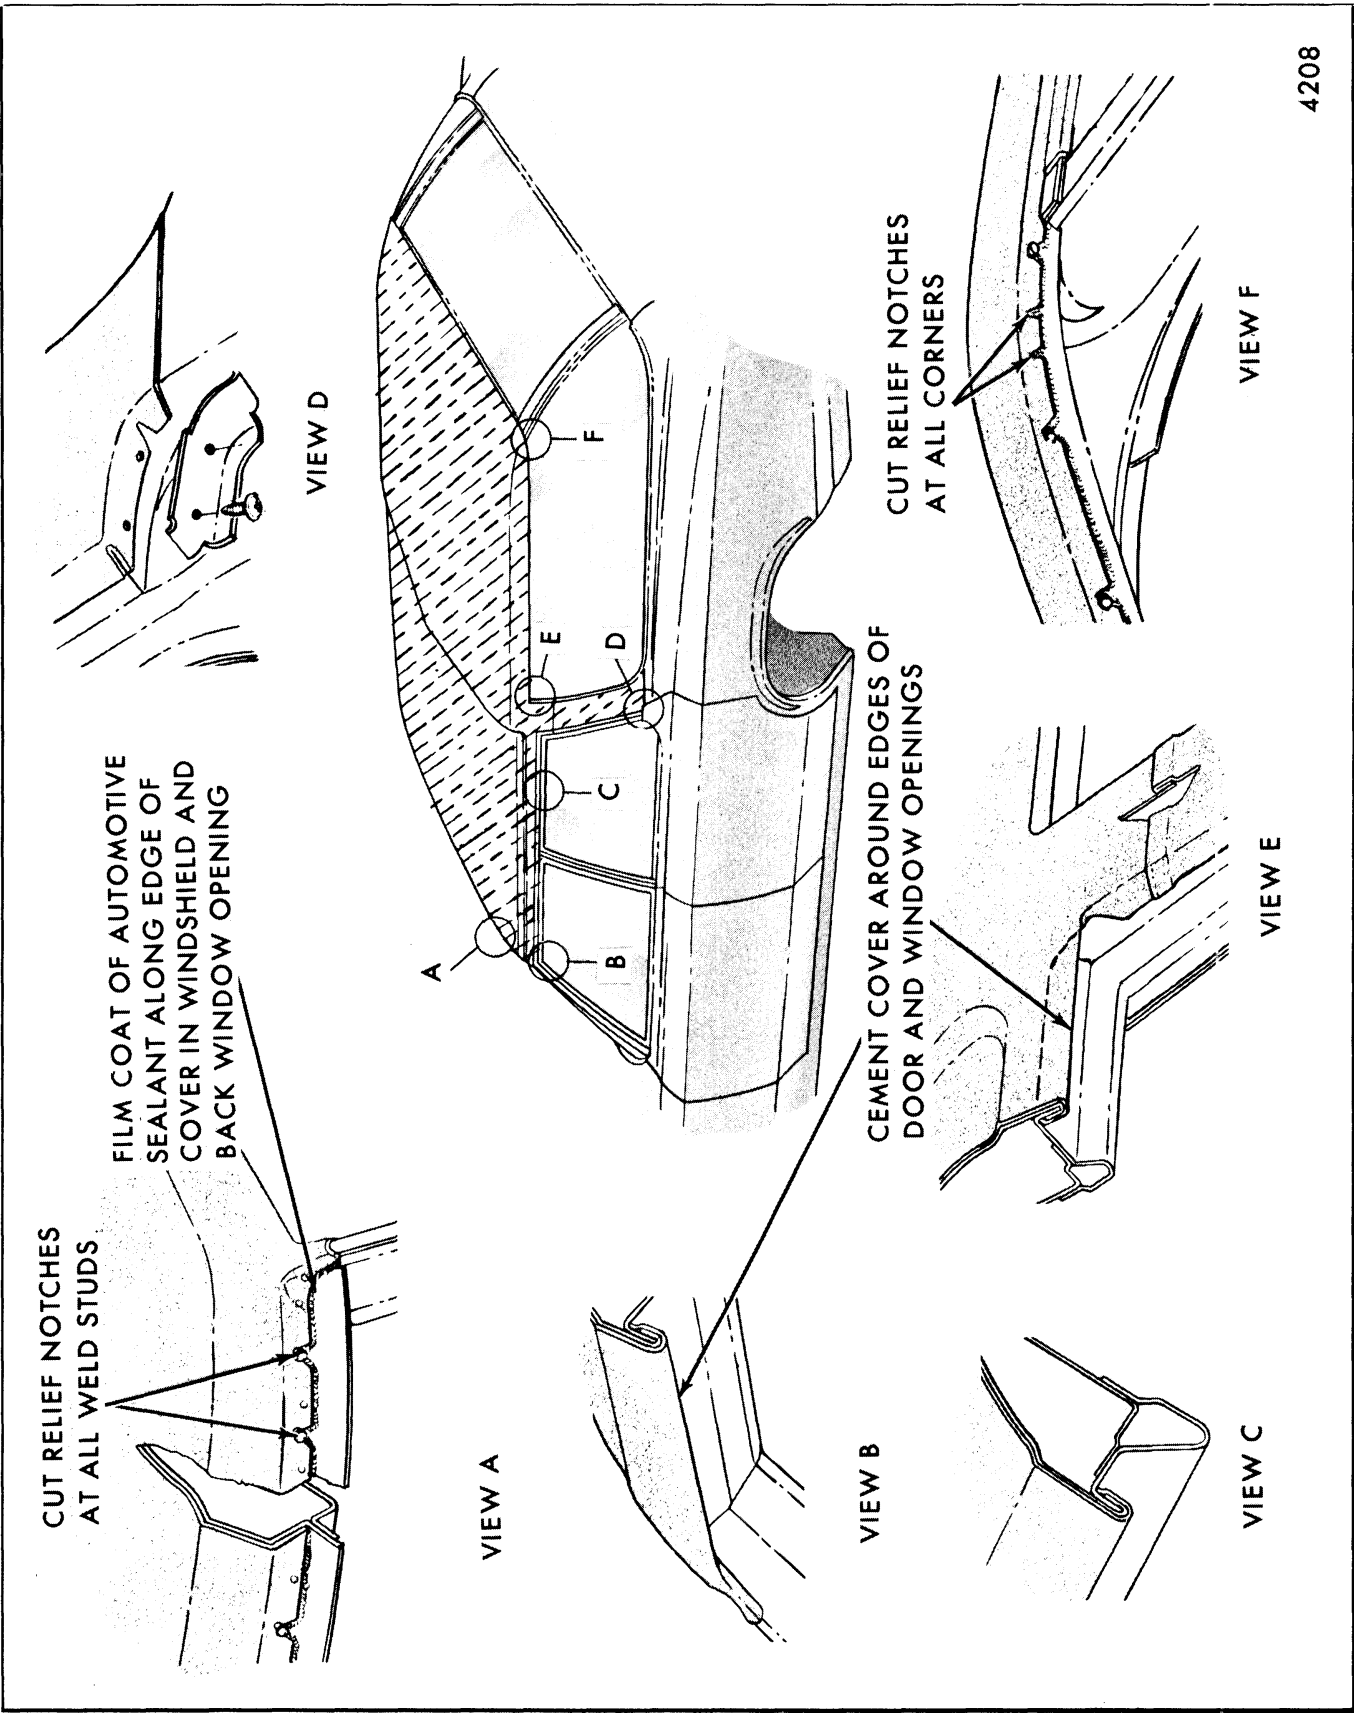

Fig. 8-24-Typical Fabric Roof Cover Installation - Station Wagon Styles
- b. On "A, B, C, E, and F" styles, cement cover around and to the underside of pinchweld flange at side rail and trim cover as shown in Figure 8-24, View "C".
24. On station wagon styles where the cover assembly extends down the rear body lock pillar, cement cover into the door and quarter window openings (Fig. 8-24).